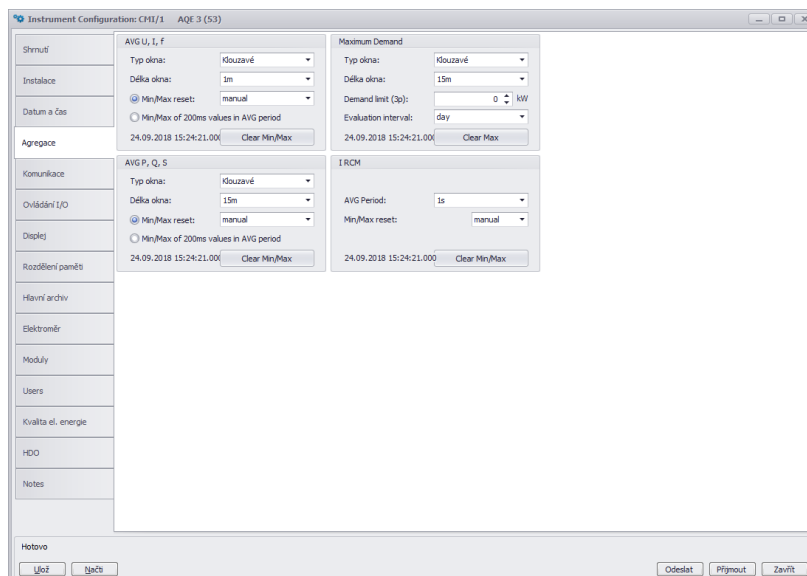

Figure 13: ENVIS.Daq — aggregation setting defines the averaging and evaluation of maximum and minimum values for display and communication.
2.4.3 Aggregation (averaging, fig. 13)